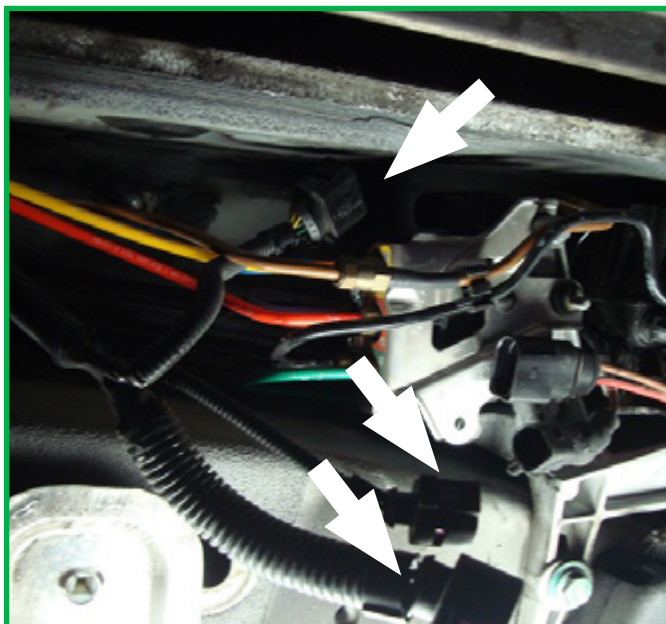

FIGURE 3
5. Disconnect the three (3) electrical connectors to the compressor. (Figure 3)